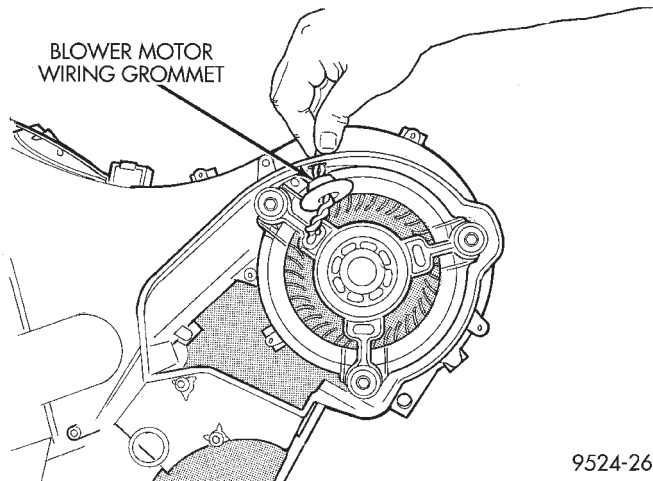

Fig. 48 Blower Motor Grommet
(4) Remove blower motor wiring grommet and feed wiring through blower housing (Fig. 48).